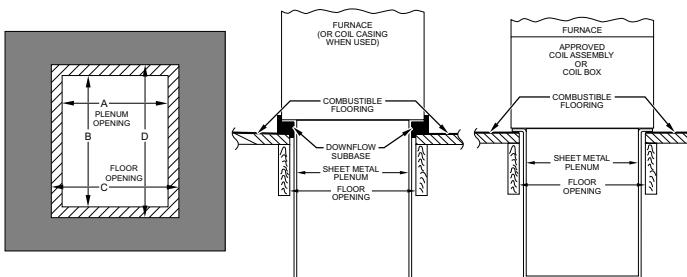

Fig. 25 – Installation on Combustible Flooring
2. Construct hole in floor per Table 6 and Fig. 25.
3. Construct plenum to dimensions specified in Table 6 and Fig. 25.
4. If downflow subbase is used, install as shown. If manufacturer's cased evaporator coil or coil casing is used, install as shown in Fig. 25.